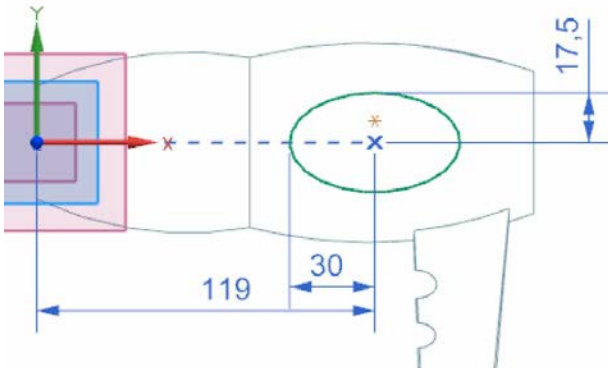

Figure 11-108 Sketch to be created
3. Create a sketch, as shown in Figure 11-108, and then exit the Sketch in Task environment.